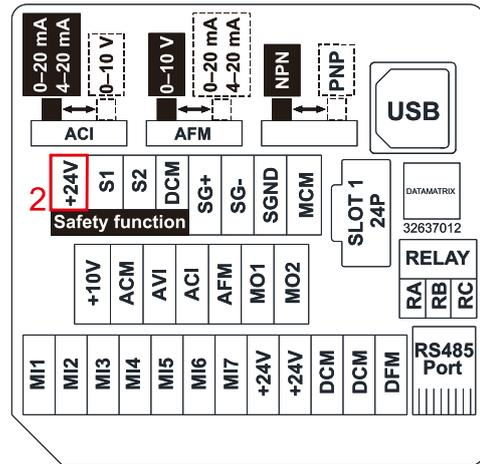

Figure 6-7 Control Terminal Location Diagram
9. Use the +24 VDC power supply of the safety function (as shown in Area 2 in Figure 6-7) for STO only. Do NOT use it for other purposes.